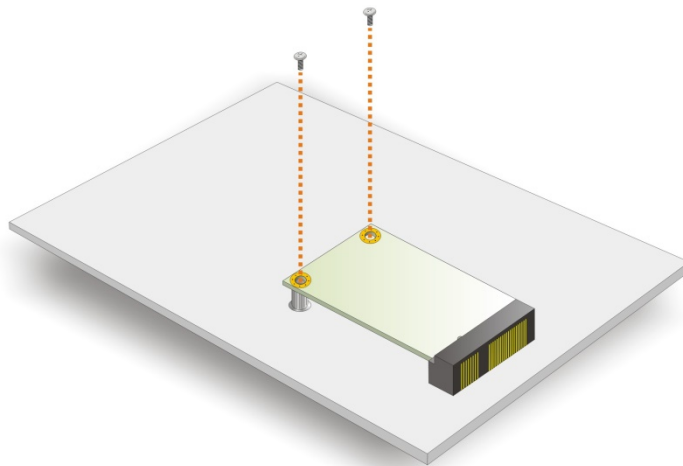

Figure 3-5: Securing the PCIe Mini Card
Step 4: **Secure the PCIe Mini card.** Secure the PCIe Mini card with the supplied retention screws (**Figure 3-5**).